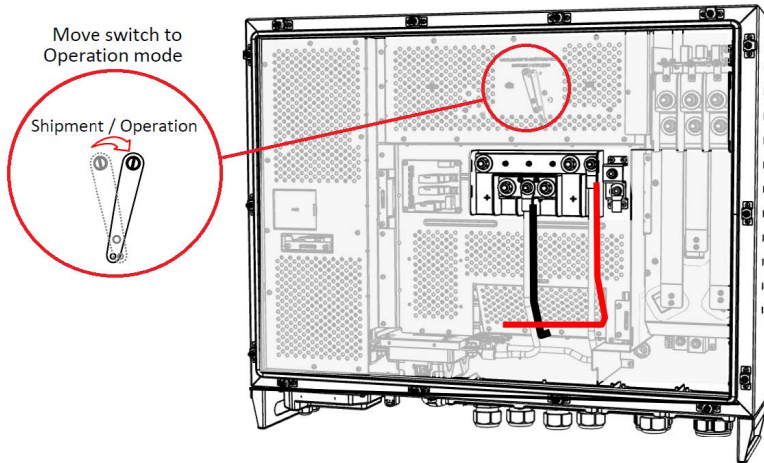

Figure 21: Unlocking the inverter
1. To unlock the inverter and enable power production, move the lock from SHIPMENT to OPERATION (see *Figure 21*).